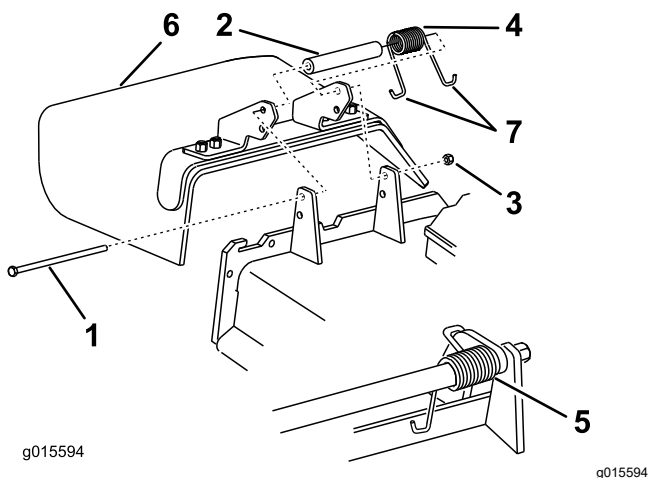

Figure 95
1. Remove the locknut, bolt, spring, and spacer holding the deflector to the pivot brackets (Figure 95).
**Note:** Make sure that 1 J-hook end of spring is installed behind deck edge before installing the bolt as shown in Figure 95.
6. Place 1 J-hook end of the spring around the grass deflector (Figure 95).